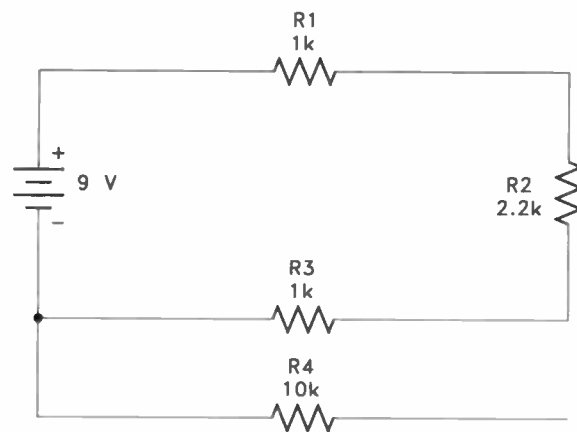
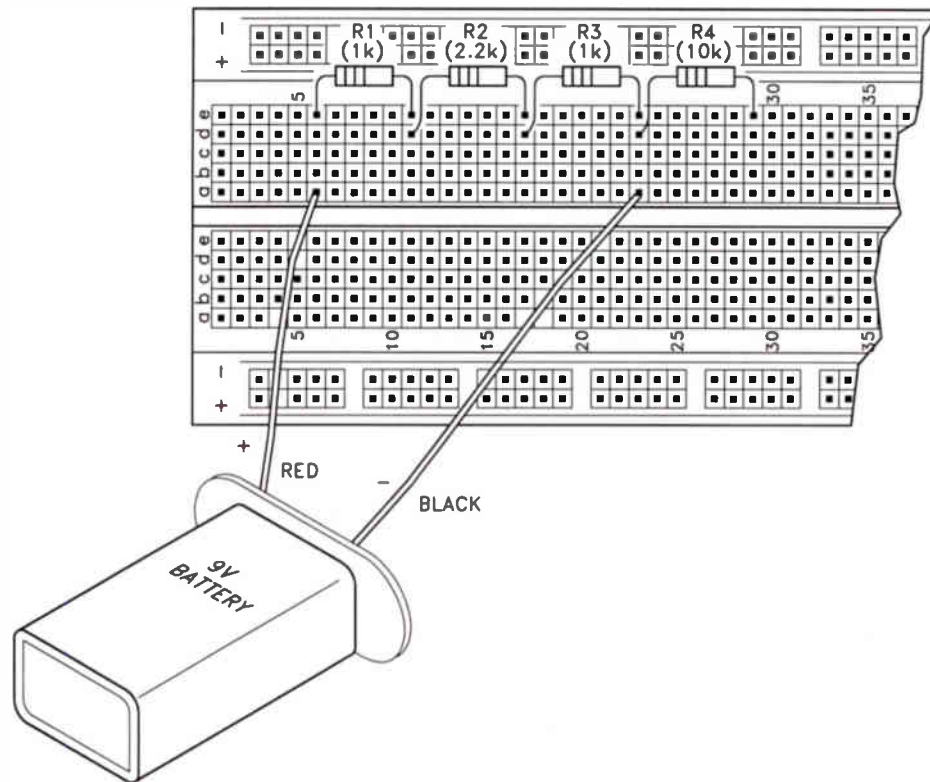

Figure 2-2. Schematic of the circuit for Experiment 2.
Figure 2-3. Pictorial of the circuit for Experiment 2.
Now construct the circuit shown in Figure 2-2. Your wiring should look something like the illustration in Figure 2-3.
Step 1. Examine Figure 2-2. Notice that R1, R2, and R3 form a series circuit and are connected across the 9 V battery. R4 is *not* in the circuit.